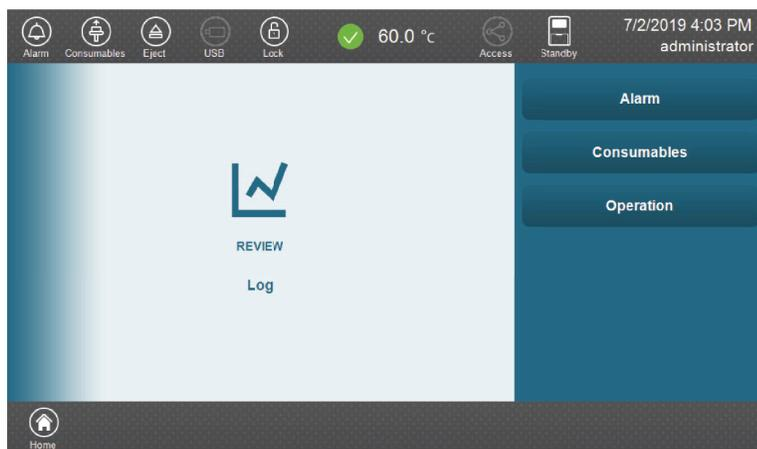
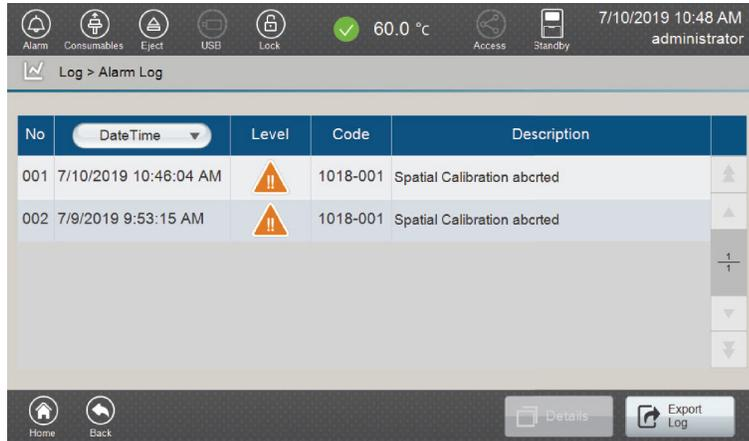
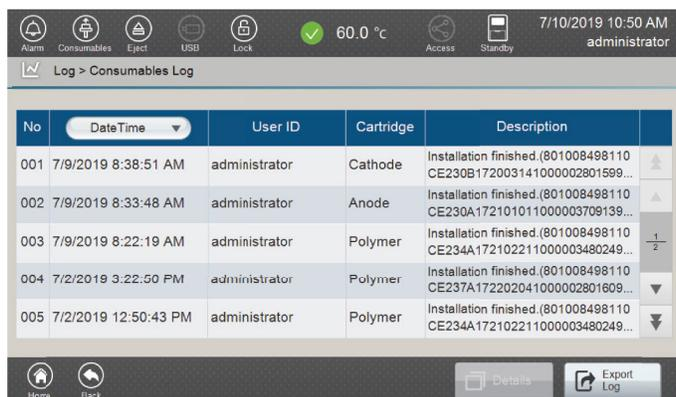
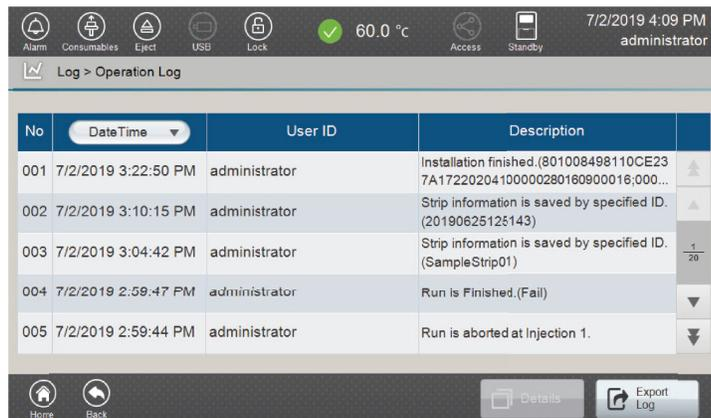

Figure 110. 'Log' screen.
Figure 111. 'Alarm Log' screen.
Figure 113. 'Consumables Log' screen.
Figure 115. 'Operation Log' screen.
The Spectrum Compact Control Software logs alarm, consumables and operation information for the instrument. These logs can be accessed by selecting **Log**, which is located in the Review section of the 'Main Menu' screen (Figure 9) of the Spectrum Compact Control Software. There are three functions available in the 'Log' screen (Figure 110):
1. Select **Alarm** on the 'Log' screen (Figure 110) to open the 'Alarm Log' screen (Figure 111).
2. Select the **DateTime** column of the 'Alarm Log' screen to sort logs by date in ascending or descending order (Figure 111).
1. Select **Consumables** on the 'Log' screen (Figure 110) to open the 'Consumables Log' screen (Figure 113).
2. Select the **DateTime** column of the 'Consumables Log' screen to sort logs by date (Figure 113).
1. Select **Operation** on the 'Log' screen (Figure 110) to open the 'Operation Log' screen (Figure 115).
2. Select the **Date Time** column of the 'Operation Log' screen to sort logs by date in ascending or descending order (Figure 115).
1. Select either **Alarm**, **Consumable** or **Operation** on the 'Log' screen (Figure 110).